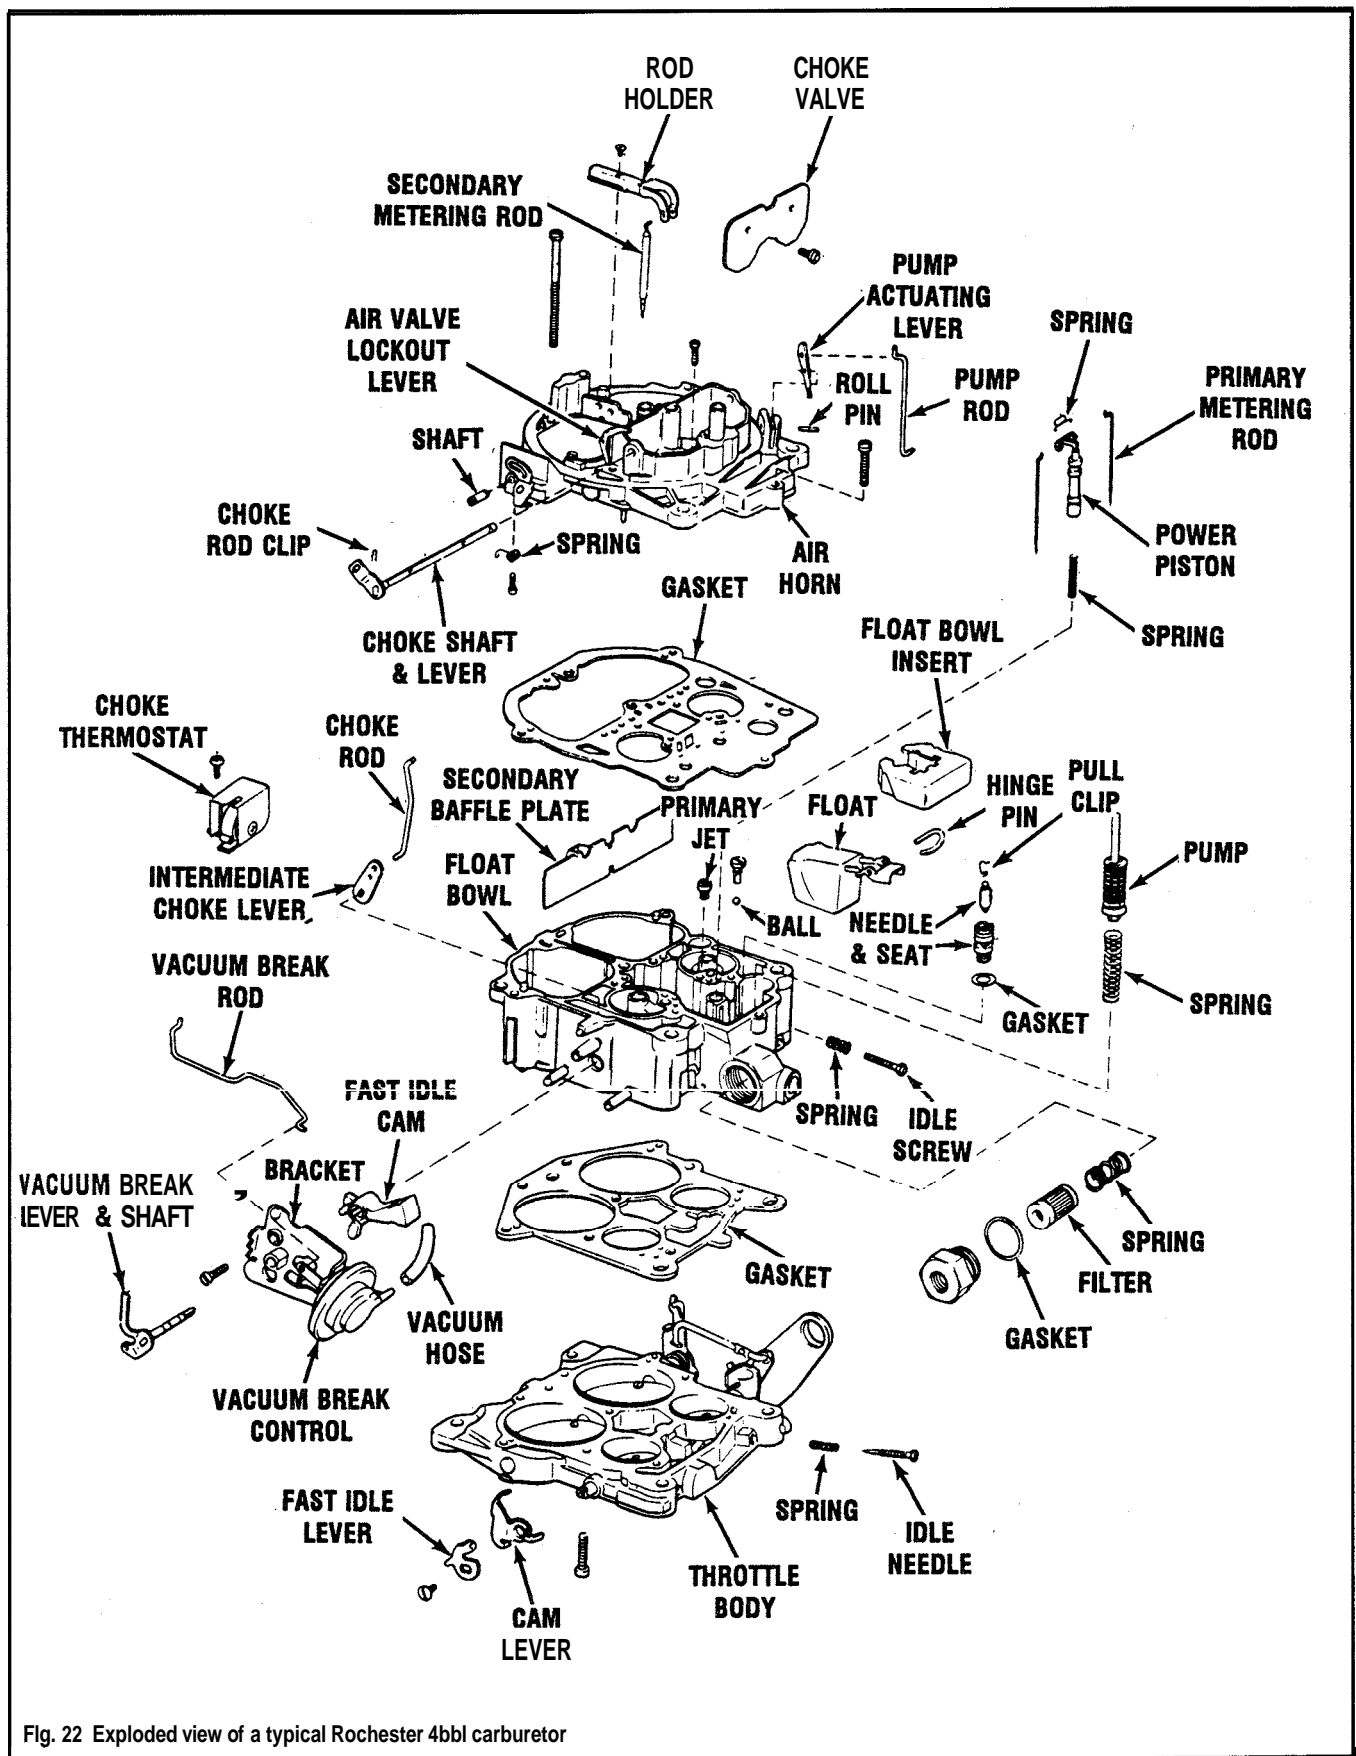

Fig. 22 Exploded view of a typical Rochester 4bbl carburetor
I) See Figures 22 thru 30
I) See Figures 22, and 31 thru 42